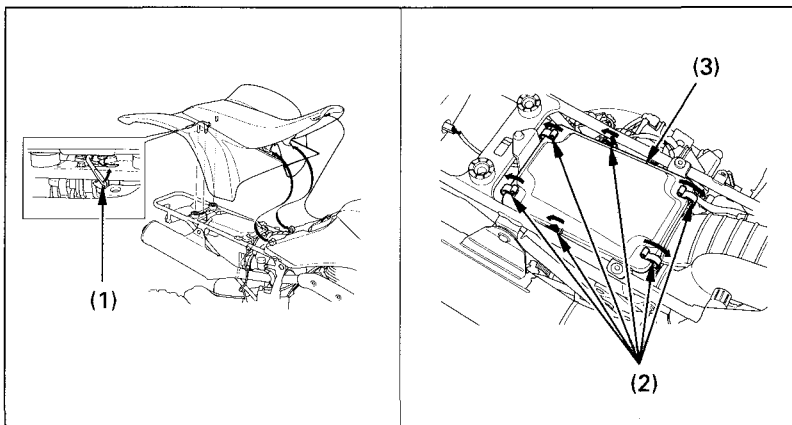

Fig. 4-5 (1) Seat lock lever
1. Remove the seat by pulling up the seat lock lever (1) (Fig. 4-5).
2. Unlatch the six retainer clips (2) and remove the air cleaner housing cover (3).